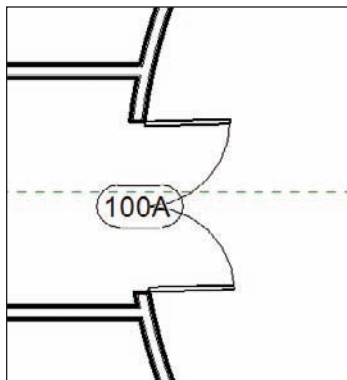

FIGURE 4.32 Adding a double door to the east wing corridor
1. Zoom into the end of the corridor in the east wing of the building, as shown in Figure 4.32.
3. Place a Double Flush : 72" × 84" door in the radial corridor wall, as shown in Figure 4.32. As when you placed the window along the reference plane in the last procedure, don't try to eyeball the correct alignment; you want to purposely misalign the door.